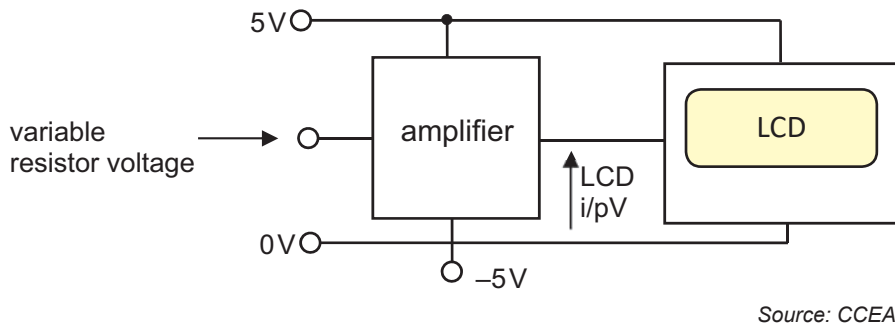

Fig. 7
- (b) A diagram representing a circuit used to display the quantity of liquid in the evaporating tank is shown in **Fig. 7**. The LCD meter will display a number between 0 and 5000 to represent the quantity in litres ranging from empty to full.
- (ii) The variable resistor voltage in **Fig. 7** varies between 0 volts and 1.25 volts for an empty and full tank. The LCD input voltage range is 0–5 volts for the meter to display 0–5000. Draw and label a design for an amplifier, based on a dual supply op amp to match the variable resistor voltage and the LCD input voltage. State the calculated gain and any suitable resistor values to achieve this gain.